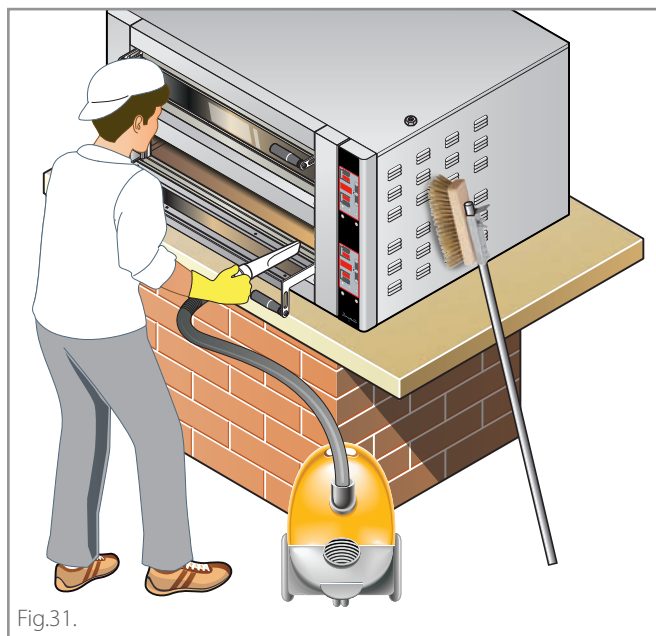

Fig.31.
- (A)** Set the **temperature in the chamber to 400 °C - 752 °F**;
- (B)** acting on the **MIN** and **MAX** keys, set both the **top** and **bottom power to MAX**;
- (C)** switch the cooking chamber lights off;
- (D)** when the temperature is reached, switch the oven off with the **ON/OFF** key and let it cool down with the door closed;
- (E)** in a cold oven, clean the chamber from the crystallized food residues using a natural fibre brush and then vacuum with an ash extraction bin ▶ **Fig.31.**
- (B)** set the **top** and **bottom power to 100%** see manual settings;
- (C)** switch the lights in the cooking chamber off;
- (E)** with a cold oven, clean the chamber from the crystallized food residues using a natural fibre brush and then vacuum with an ash extraction bin ▶ **Fig.31.**